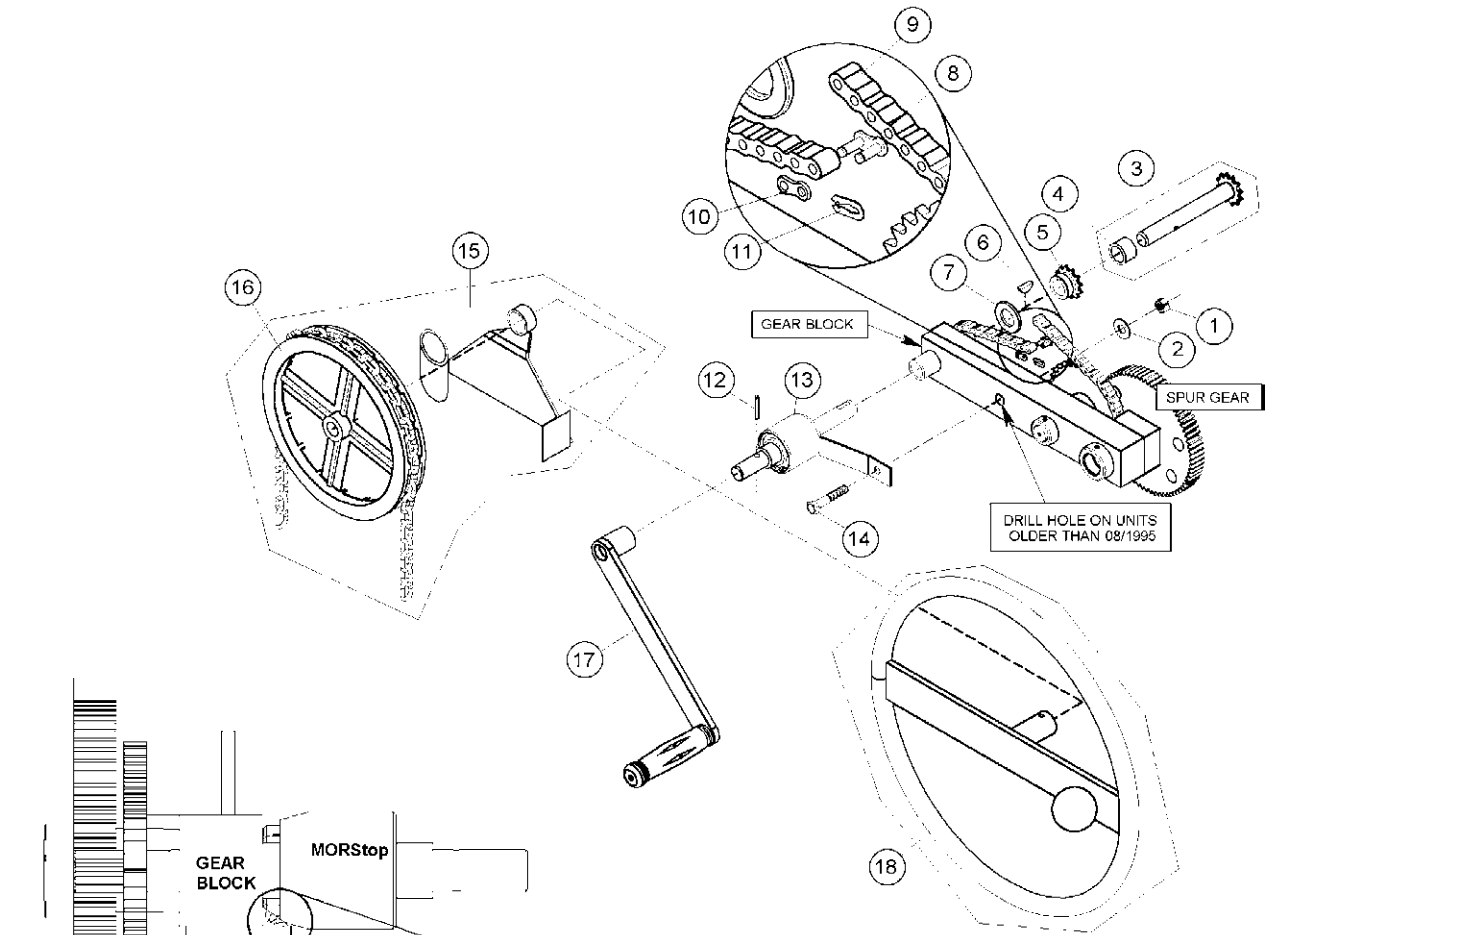

Figure 1
3. Using needle nose pliers carefully remove the spring clip (item 11), side link (item 10) and master link (item 8) on the #35 pitch roller chain (item 9).
4. Remove the drive sprocket (item 3 or 5) from the gear block in one of the following ways:
- a. If sprocket is welded to the shaft (item 3): using a 3/16 punch and hammer, carefully press out the roll pin (not shown) and slide the drive sprocket with shaft and spacer (item 4) out of the gear block. You will no longer use these parts.
- b. If sprocket is setscrewed onto the shaft (item 5): loosen sprocket setscrews, remove sprocket from shaft, remove the woodruff key (item 6), finally, prior to sliding crank device from gear block, file shaft around keyway to prevent bearing damage.
5. On some Morse drum handlers, i.e. Morse model 285A, the weld between the gear block and 2 x 3 vertical leg tube may interfere with the MORStop™ (see Figure 1 on page 2). This weld will need to be ground enough to clear the MORStop™.
On some Morse drum handlers, i.e. Morse Model 285A, the weld between the gear block and 2 x 3 vertical leg tube may interfere with the MORStop™ (Figure 1). Grind weld enough to clear the MORStop™.